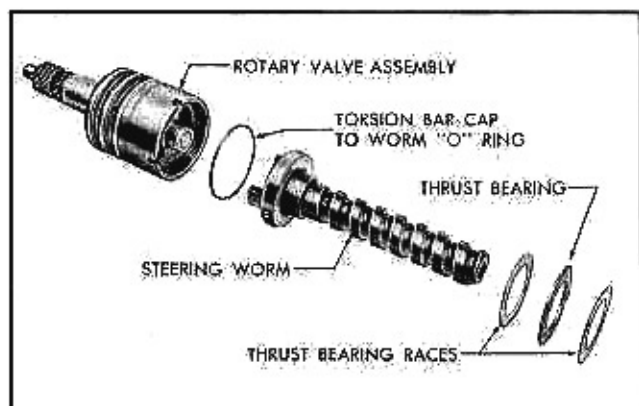

Fig. 9A-32 Worm Shaft and Rotary Valve—Exploded View
1. Assemble thrust bearing and races on worm (Fig. 9A-32).